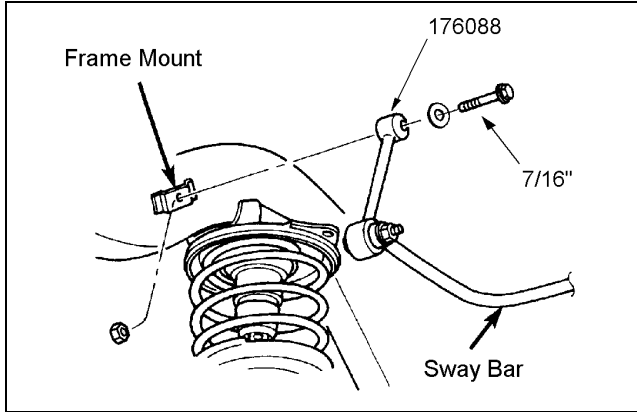

Figure 16
- 4)  Attach the new end link assemblies to the frame brackets and rear sway bar with the hardware from kit 860155. See Figure 16. Tighten the end link mounting bolts to 40 ft. lbs.